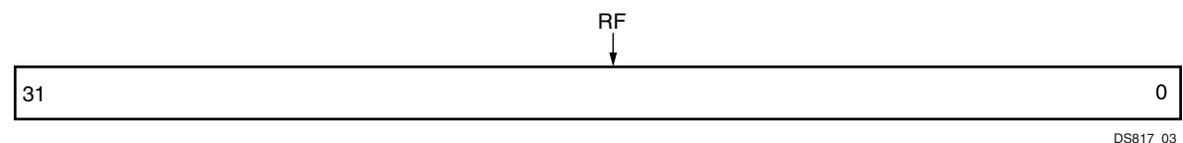

Figure 2-5: Read FIFO (RF)
The Read FIFO (RF) register shown in Figure 2-5 is a 32-bit keyhole register into a Read FIFO. The bit definitions for the Read FIFO are shown in Table 2-9.